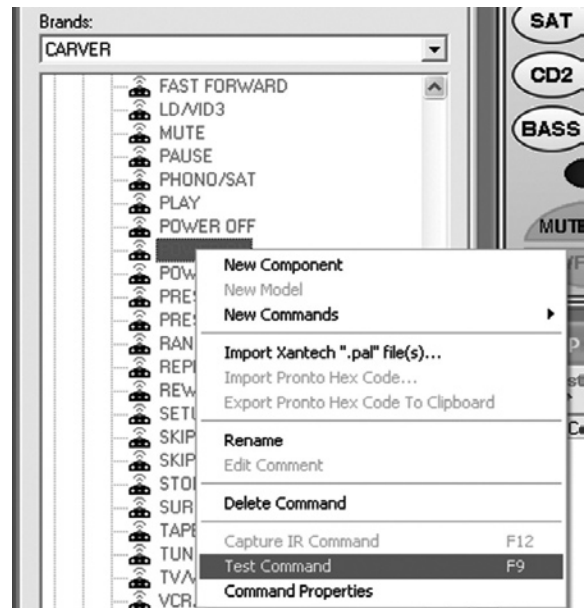

Figure 25 Using Test Command (F9) to "Teach" Learning Remotes
- In Proficient Editor, left-click the desired code (in this case POWER ON) and press **F9** (or right-click then left-click "Test Command" on pop-up). Refer to Figure 25. This will transmit the IR Code to the learning remote.